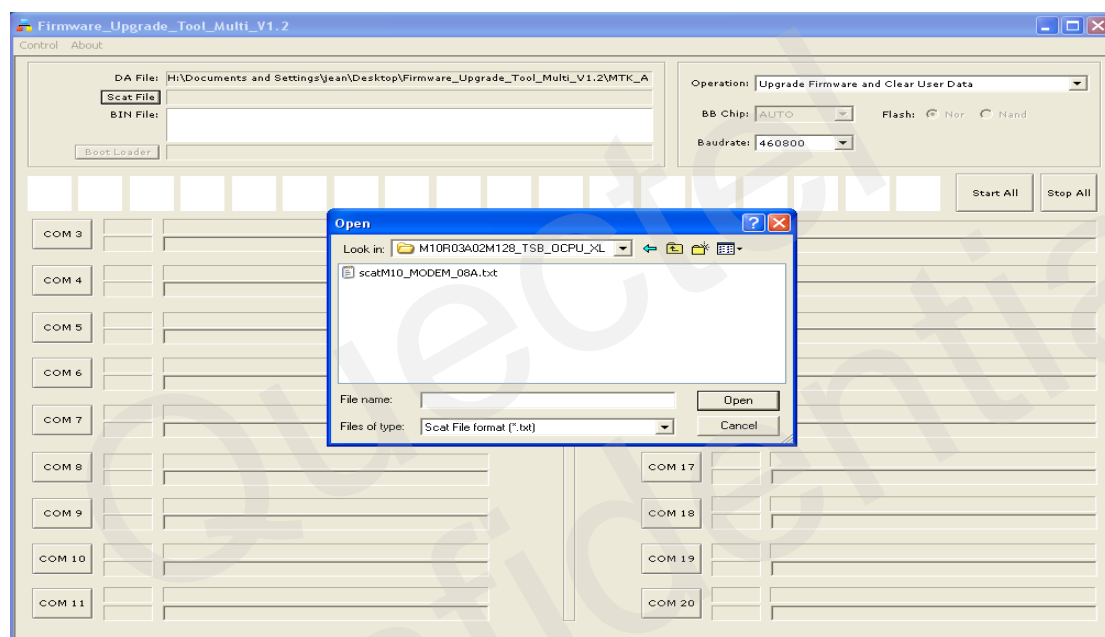

Figure 2: Set the Scat File
- c) Set “Scat File” as figure 2.